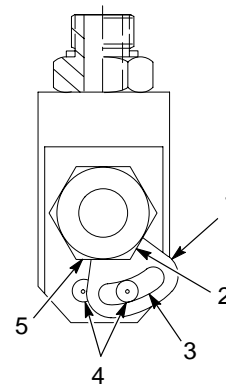

Figure 4 Swivel Lock Key
2. See Figure 4. Remove the cap screw and swivel lock key (1) from the elbow swivel.